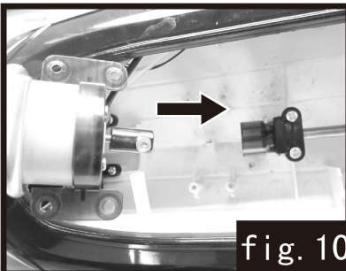

fig. 10
- 10.Load the motor seat module (see the fig.10)